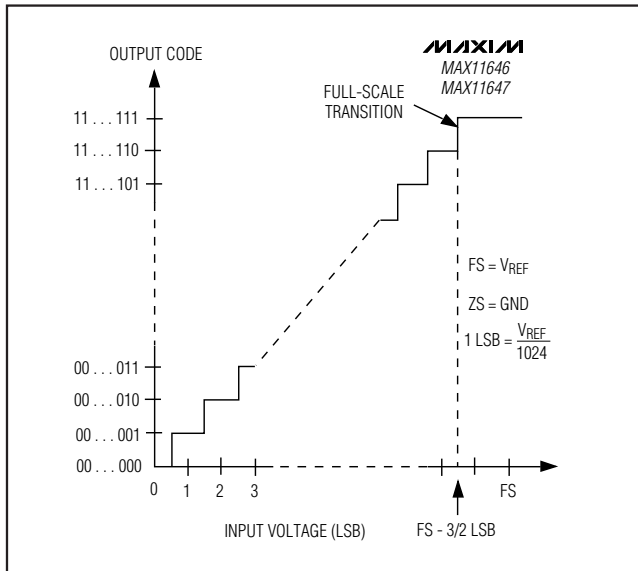

Figure 12. Unipolar Transfer Function
Output data coding for the MAX11646/MAX11647 is binary in unipolar mode and two's complement in bipolar mode with  $1 \text{ LSB} = (V_{\text{REF}}/2^N)$  where N is the number of bits (10). Code transitions occur halfway between successive-integer LSB values. Figures 12 and 13 show the input/output (I/O) transfer functions for unipolar and bipolar operations, respectively.